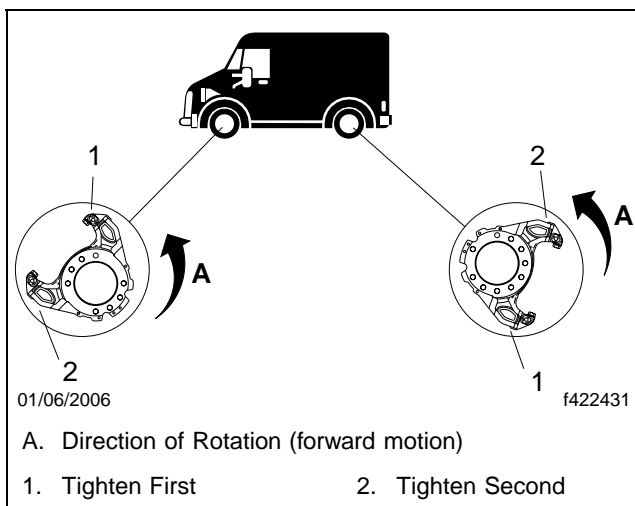
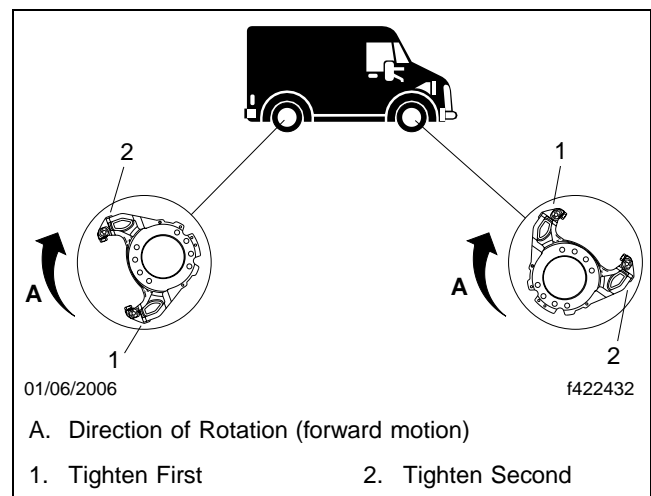

Fig. 11, Tightening Sequence for Caliper Mounting Bolts, Left Side
Fig. 12, Tightening Sequence for Caliper Mounting Bolts, Right Side
IMPORTANT: See Fig. 11 and Fig. 12 before tightening either the upper or lower mounting bolt.
7. Tighten the bolts 93 to 107 lbf·ft (126 to 145 N·m) in the sequence shown in Fig. 11 and Fig. 12.